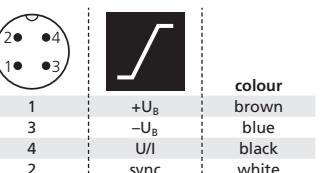

Fig. 2: Pin assignment with view onto sensor plug and colour coding of the microsonic connection cable
- Connect a connection cable to the M8 device plug (see Fig. 2).